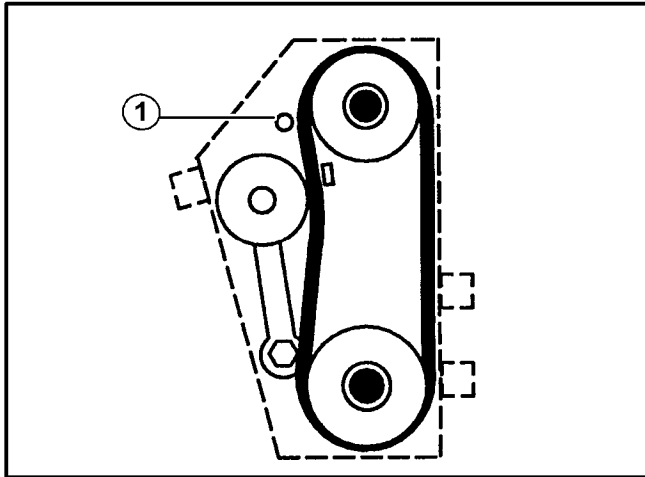

FIGURE 6
6. Reinstall the belt guards. The belt stop rod should be positioned outside the belts as shown in Figure 6.